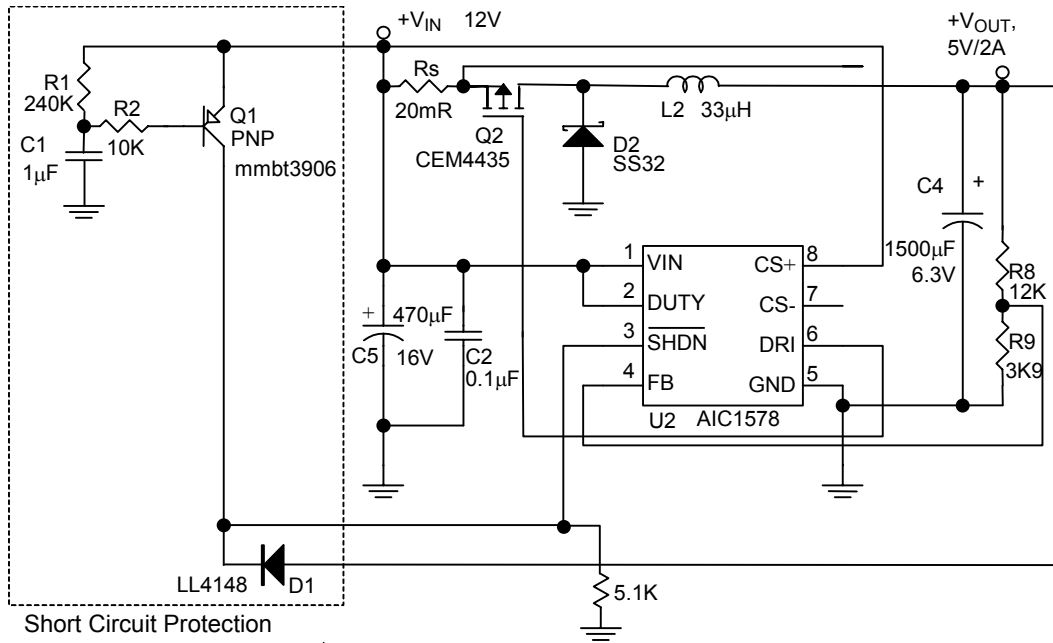

Fig 11. Add A Short Circuit Protection Circuit Solution
3. Design 2: shown as Fig. 11.